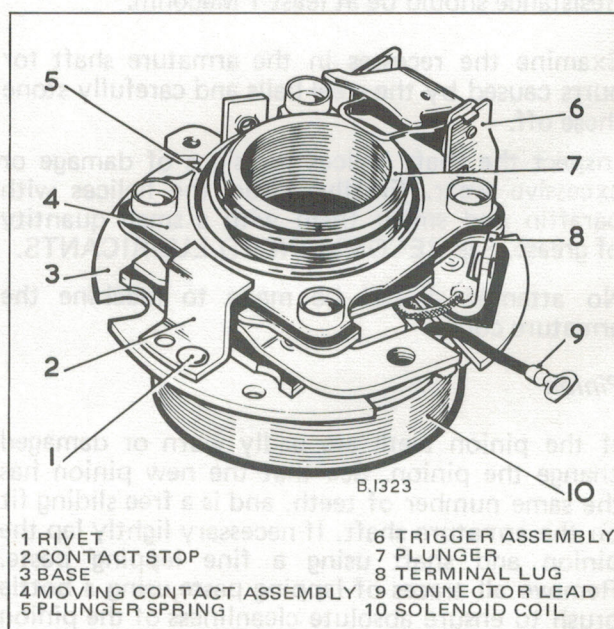

Fig. 8 Solenoid switch assembly
The coils can be checked for short or open circuits by measuring current consumption at nominal voltage. 12 VOLT STARTER SOLENOIDS are dual wound and consist of a pull-in and a hold-on winding therefore before testing these, a link should be made between the base of the contact assembly (3) and the terminal lug (8) Fig. 8 on EARTH RETURN versions, or between the green lead and terminal lug (8) on INSULATED RETURN versions.
Refer to Fig. 8
Place the shaped insulator bush (19) over the solenoid terminal screw (21) add the solenoid terminal tag ((9) Fig. 8) black lead over the terminal screw and push it through its hole in the end shield. Fit round insulating bush, spring washer and nut (20).